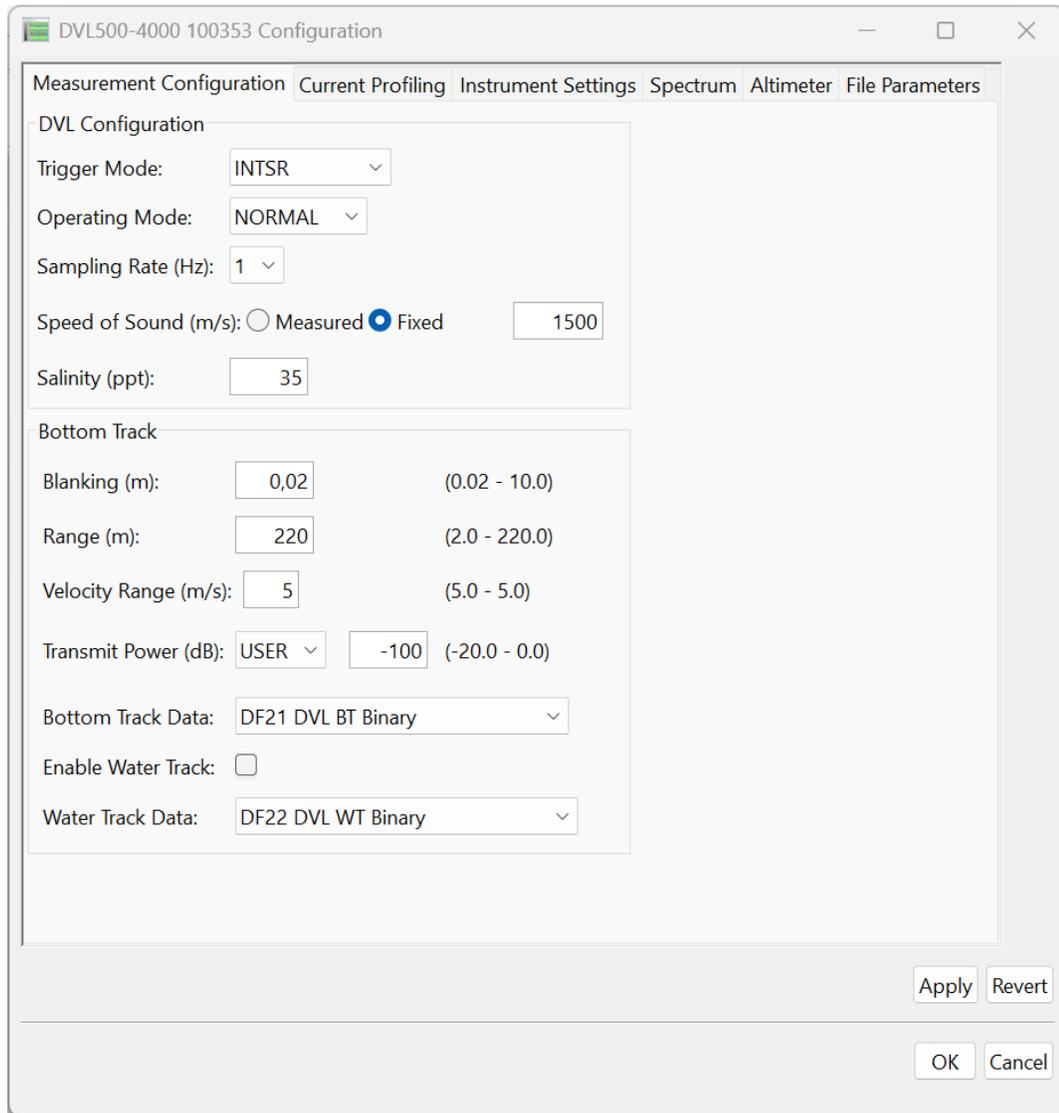

Figure 5: Midas Measurement Configuration
5. Configure the instrument measurements (bottom track) with the settings illustrated in figure 5. Bottom track is always enabled for the DVL but note that the transducers are turned off when power level is set to -100dB. It is critical that the transducers are turned off so the DVL will be in listening mode.